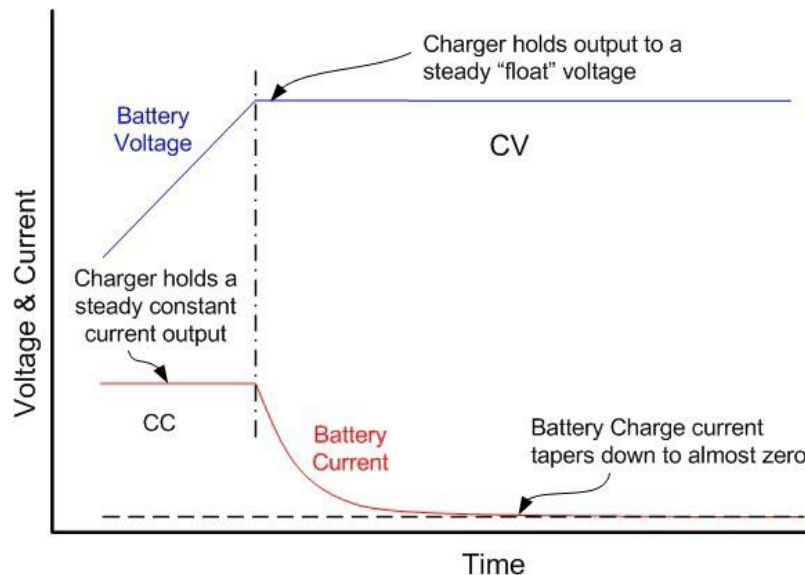

Figure 11: Battery Voltage and Current During Normal Charge
For Alliance Intelligent Battery Series™ batteries operating under normal conditions during a charge, a charger applies Constant Current (CC) until the terminal voltage reaches its End of Charge (EOC) voltage (maximum), as shown in Figure 11. This process is followed by a float voltage, where the charge current decays to near zero. During the charging, the balancing circuitry performs cell balancing. This process charges the Alliance Intelligent Battery Series™ battery to 100% SOC. Please refer to “Over Charge Protection (Over Voltage Protection)” for the battery voltage limit in CV stage and refer to “Charge limits and Temperatures” for battery current limit in CC stage.